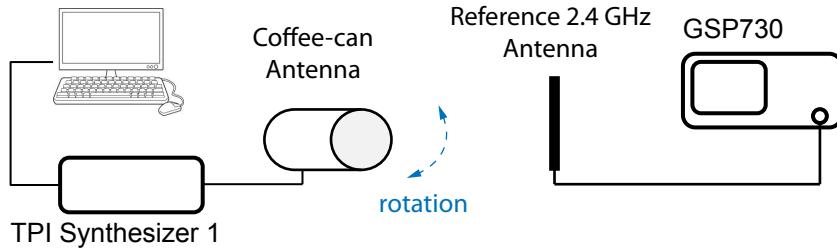

Figure 6: Measuring antenna pattern using a reference antenna.
4. **Antenna Gain** You should be able to measure a signal at 2.4 GHz on your spectrum analyzer. Record the power of this signal, which will be your  $P_r$  and calculate the gain of your antennas using (1). Make sure that you carefully take into account the loss of the connectors, adapters, and cables.
6. **(Optional) Antenna Pattern** After you have finished the above steps, the TA can show you to the anechoic chamber in the Kemper 3182 lab, where you can have the pattern of your antenna measured. Plot the pattern of your antenna in your lab report. Alternatively, you may also try to do a crude pattern measurement by yourself. Fig. 6 will give you some hint. Ask the TA for the reference 2.4 GHz antenna.